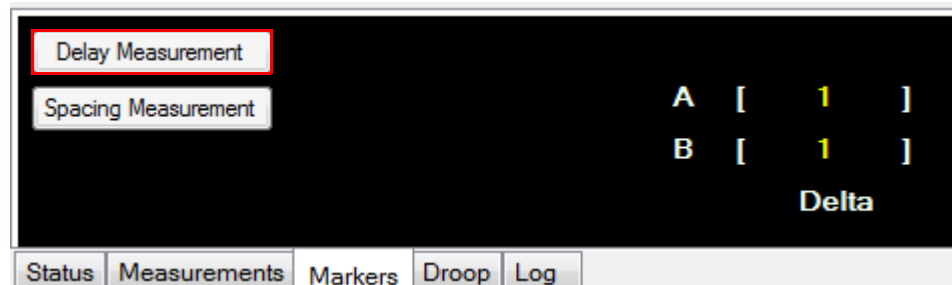

Figure 2-80 Delay Measurement button in the Marker view
- 1 Select **Delay Measurement** in the Marker view as shown in Figure 2-80.